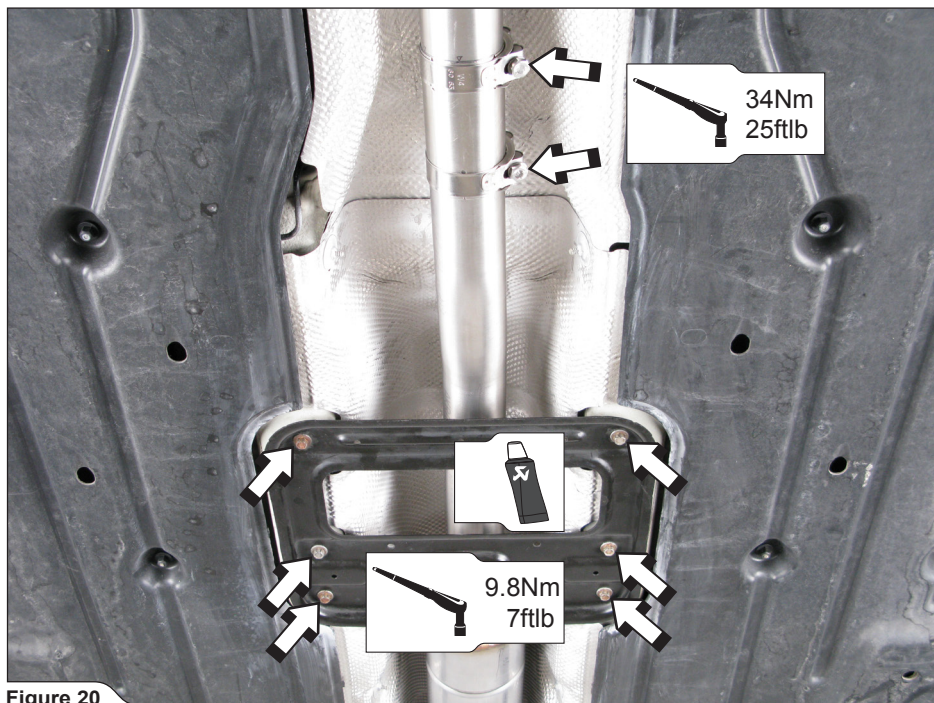

Figure 20
9. **For Evolution:** adjust the link pipe, resonator and muffler so, that the pipes, resonator or muffler don't touch any part of the vehicle (**there should be at least 10mm gap at any point**) and tighten to specified torques all clamps (**Figure 14, 17, 20**). Reattach the reinforcement plate (**Figure 20**).